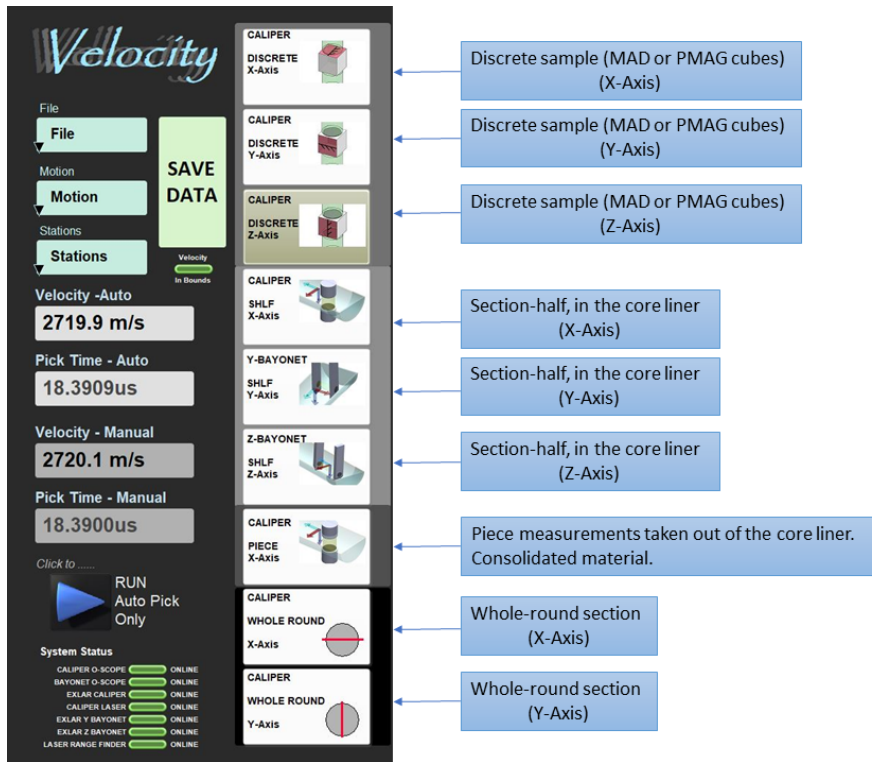

Figure 4. Measurement Configuration Options
1. Select the measurement type. Seven different measurement configurations are available (Figure 4). Currently measures to whole round sections are not available.